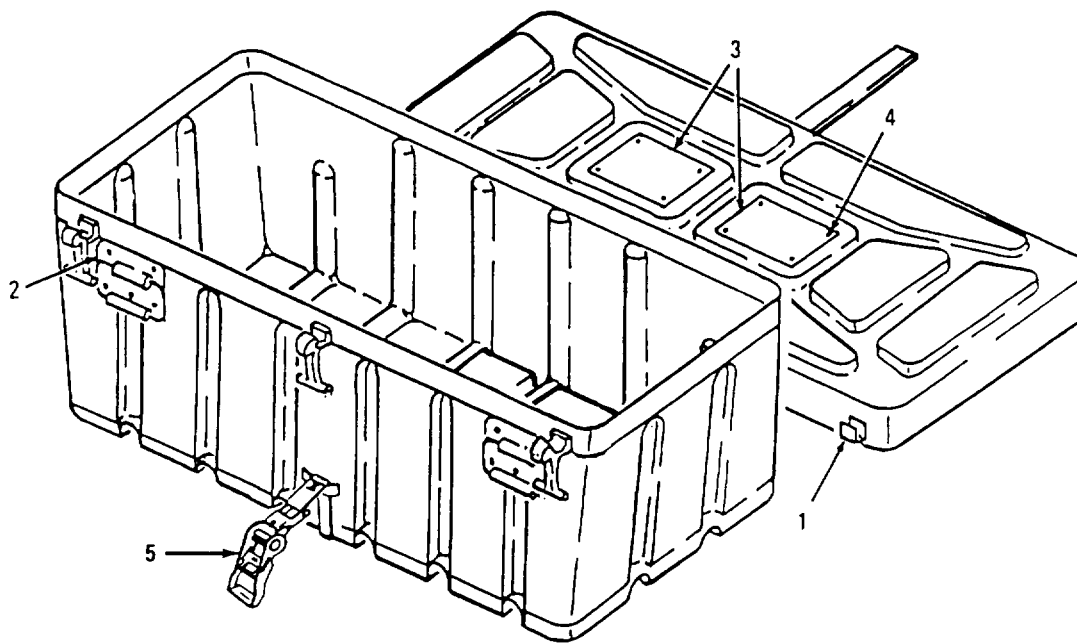

Figure 4-6. Storage Chests
a. Inspection. (Refer to Figure 4-6)
- (1) Inspect the latches (1), handles (2), and identification and information plates (3) of the storage chests.
- (2) If any rivets (4) are missing from undamaged components, the missing rivets must be replaced.
- (3) Replace damaged latches (1), handles (2), or identification and information plates (3).
- (4) Check strap assembly (5) for damaged ratchet or frayed webbing.